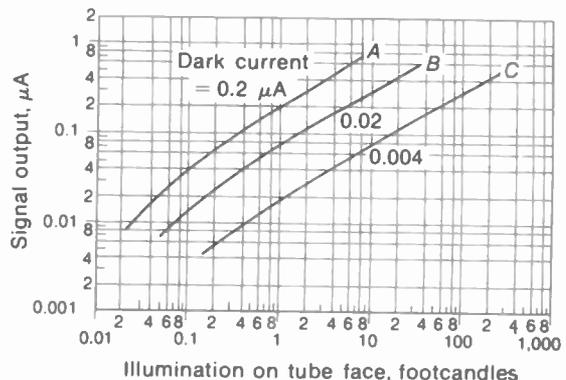

FIGURE 3-11 LIGHT-TRANSFER CHARACTERISTICS OF VIDICON. (RCA)
**Light-transfer characteristics.** Three curves of vidicon output current are shown in Fig. 3-11. Each is for a specific value of dark current, which is the output with no light, corresponding to black in the picture. The dark current is set by adjusting target voltage. Sensitivity and dark current both increase as the target voltage is increased. Typical output for the vidicon is 0.4  $\mu\text{A}$  for white highlights, with a dark current of 0.02  $\mu\text{A}$ .